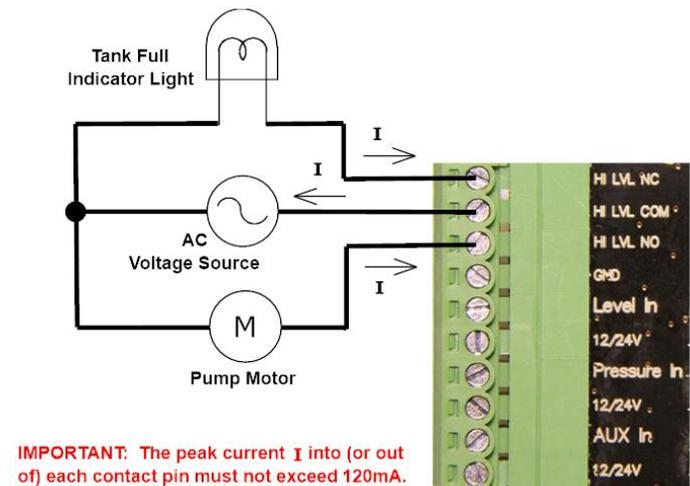

Figure 12
*Assumes Power to AC Voltage Source shown in figure 12 is still on.
Figure 12 shows an example of how to wire the contacts to a pump and indicator lamp as described above.